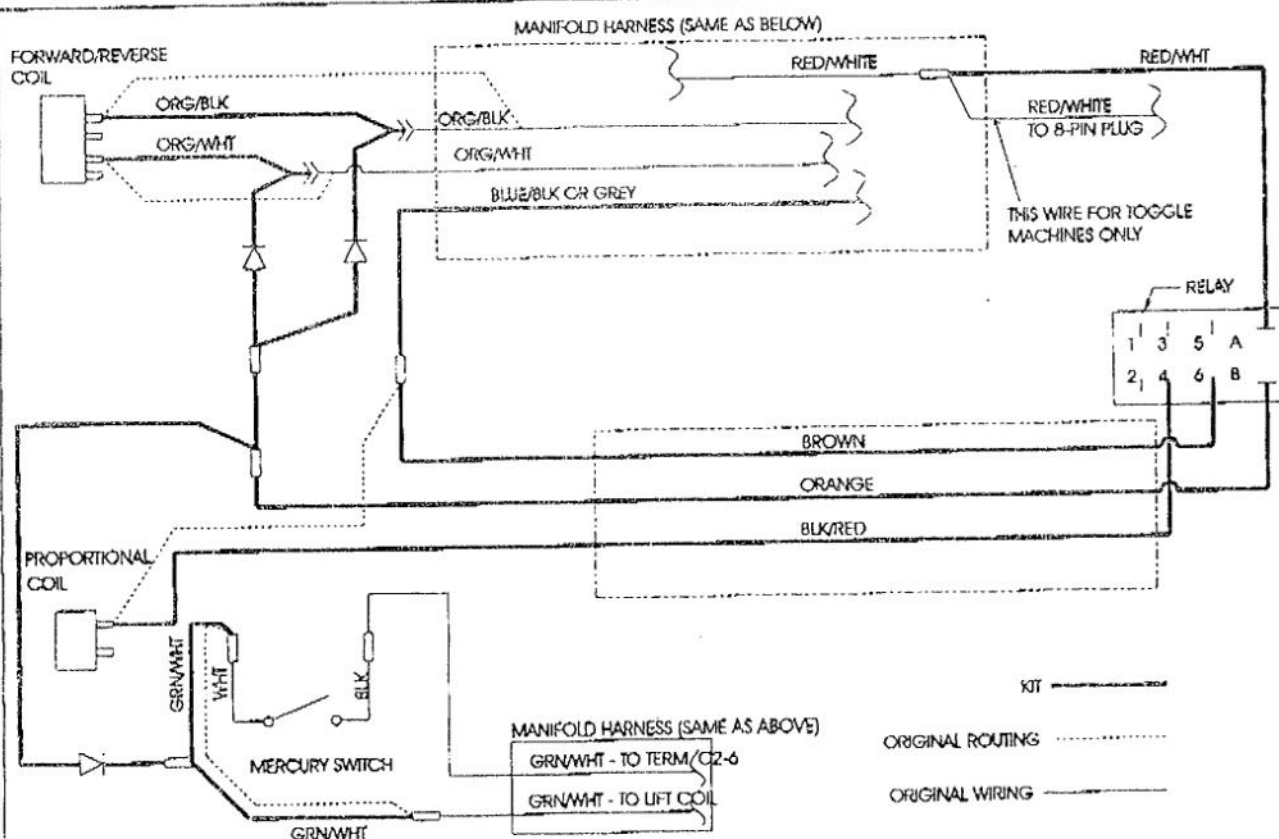

Figure 3
7. Connect the orange/white wire that was originally removed from the forward/reverse coil to the push in connection of the new Harness (#101229-000) with orange/white and orange junction push terminal (see figure 3).
8. Connect the orange/black wire that was originally removed from the forward/reverse coil to the push in connection of the new Harness (#101229-000) with orange/black and orange junction push terminal (see figure 3).
10. Connect the blue/black or gray wire to the brown wire supplied in the new harness (part # 101229-000) using the supplied butt splice (part # 029620-003) (see figures 3).
12. In the original harness, locate the blue two-conductor cable that connects the manifold harness to the mercury switch (see figure 3).
13. Find the existing splice between the white wire in the blue two-conductor cable and the green/white wire in the manifold harness and remove the splice (see figure 3).
14. Connect the white wire from the mercury switch to one of the green/white wires supplied in the new harness (part # 101229-000) (see figure 3).
15. Connect the green/white wire from the existing harness to the other green/ white wire in the new harness (part # 101229-000) (see figure 3).
16. For Toggle Switch machines splice the red/white wire into the existing harness red/ white wire in a "Y" fashion (see figure 3).
17. For Joystick machines connect the red/white wire in the supplied harness (part # 101229-000) to the red/white wire coming from the manifold harness (see figure 3).
18. Connect the orange wire from the supplied harness (part # 101229-000) to terminal "B" of the relay mounted in step 1(see figure 3).
19. Connect the brown wire from the supplied harness (part # 101229-000) to terminal "6" of the relay mounted in step 1(see figure 3).
20. Connect the black/red wire from the supplied harness (part # 101229-000) to terminal "4" of the relay mounted in step 1(see figure 3).
21. Connect the red/white wire from the supplied harness (part # 101229-000) to terminal "A" of the relay mounted in step 1(see figure 3).